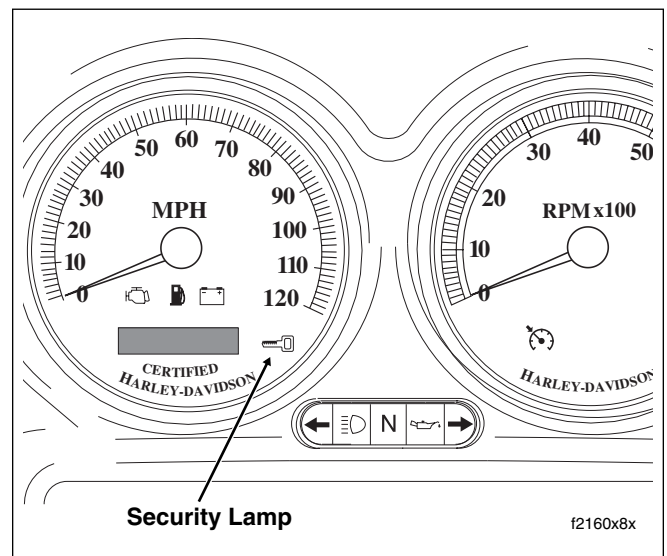

Figure 3-5. Speedometer
- **Security lamp:** See Figure 3-5. A lamp within the speedometer face tells the rider if the system is armed or disarmed.